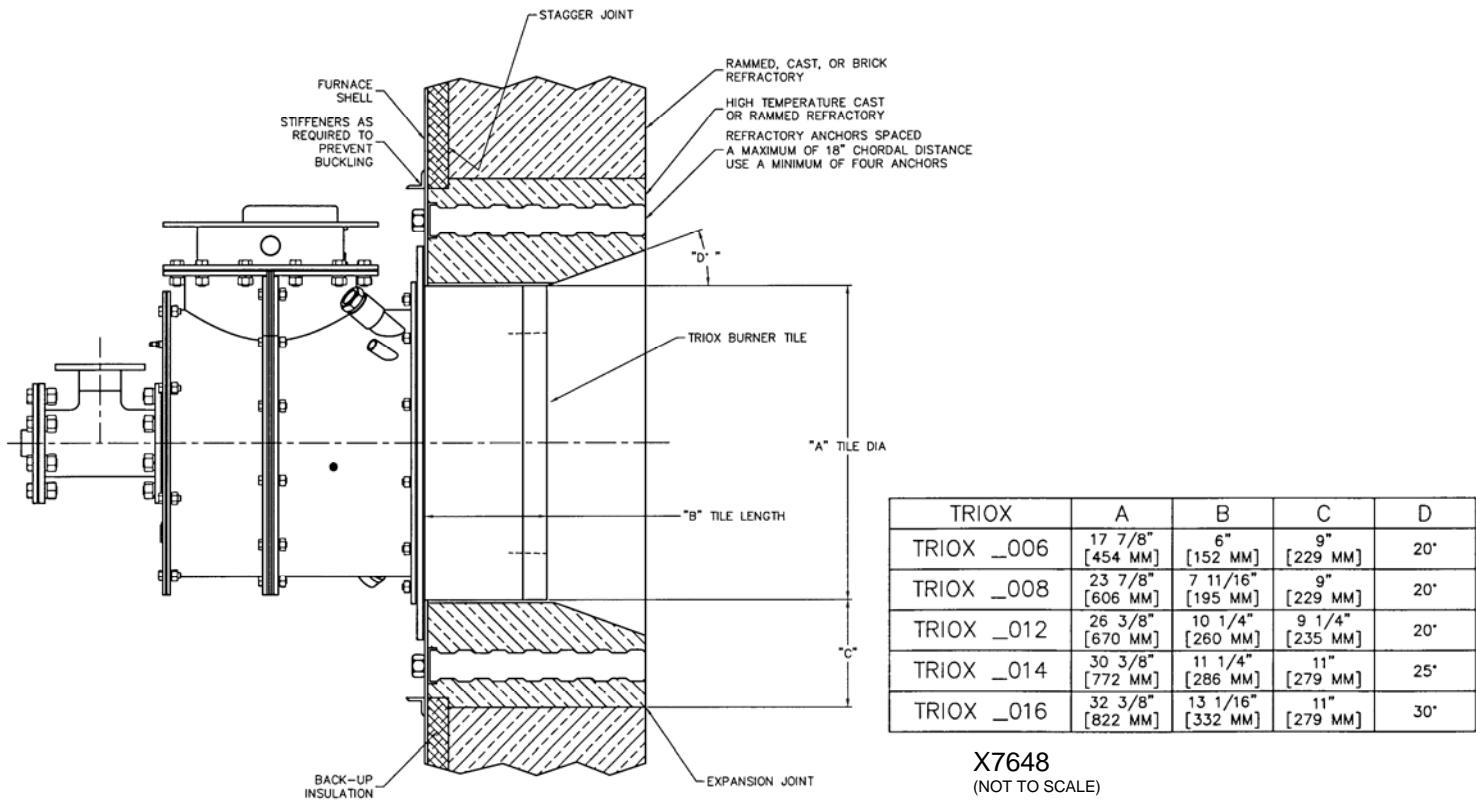

Figure 1. Burner Mounting and Refractory Installation
3. For installation in an existing refractory wall, refer to Figure 1. From inside the furnace, remove rammed, cast or brick refractory as required to allow for installation of the port block using cast or rammed refractory.
6. Install refractory anchors to the furnace shell to secure the refractory port block to the furnace shell. Refer to Figure 1 for spacing of anchors and provision for expansion joints, or follow the refractory manufacturer's recommendations.